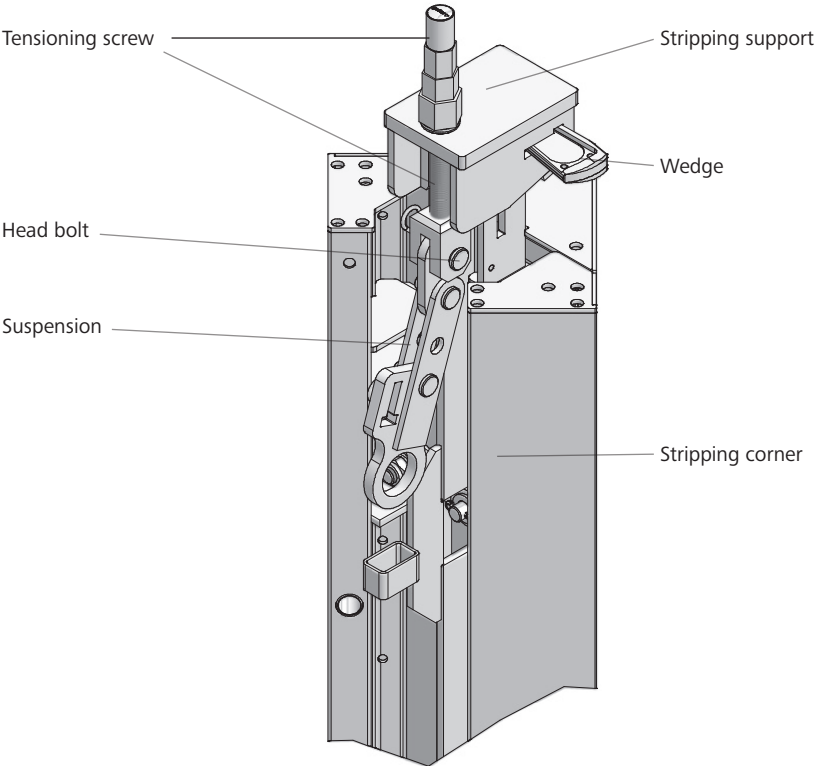

Fig. 39.3
1. Place the stripping support onto the connecting device at the top of the stripping corner. Make sure the suspension is inclined downwards (Fig. 39.3).
2. Connect the stripping support to the stripping corner with the head bolt 16/40 and cotter pin 4 that are both integrated into the tensioning screw of the stripping support (Fig. 39.3).
3. Lock the stripping support to the stripping corner by driving the stripping corner's wedge with a few hammer blows into the opening of the stripping support (Fig. 39.3).